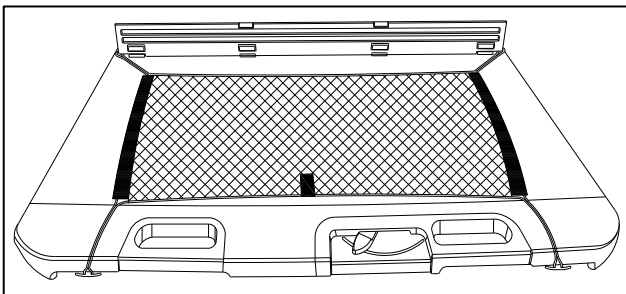

Fig. 1-6
- (g) Completed assembly as shown. (Fig 1-6)